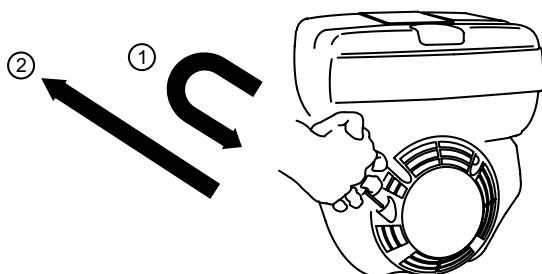

Figure 15. Engine Start Handle
- Grasp the starter grip (Figure 15) and slowly pull it out. The resistance becomes the hardest at a certain position, corresponding to the compression point. Pull the starter grip briskly and smoothly for starting.